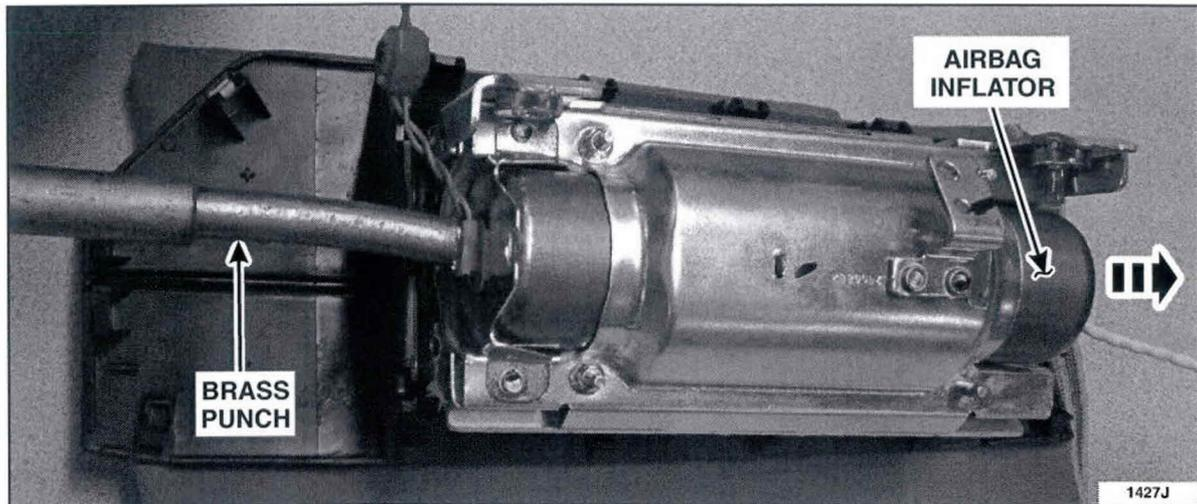

FIGURE 9
9. With an assistant holding the airbag assembly, remove the inflator from the airbag assembly by pushing outward on the inflator. Set the airbag inflator aside for return shipping. See Figure 9.